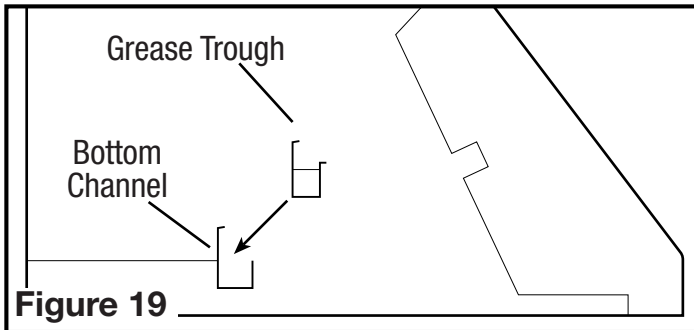

Figure 19
2. If the included removable grease trough is not already installed within the hood, insert into the rear inside channel of the hood. Make sure the taller side of the trough is facing towards the back of the hood (Figure 19).